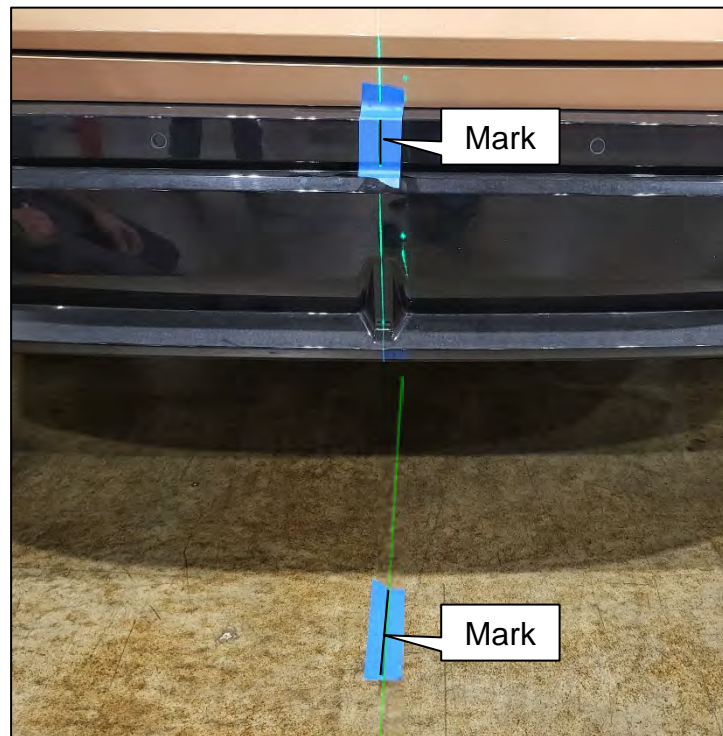

Figure 69
45. Mark the rear fascia, where shown in Figure 69, and the floor near the rear fascia.